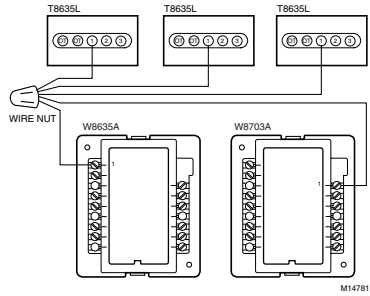

Fig. 4. Connecting zone thermostats, equipment module and damper module wiring diagram.
1. Connect the 1 wire from each thermostat, the equipment module, and the damper module as shown in Fig. 4.